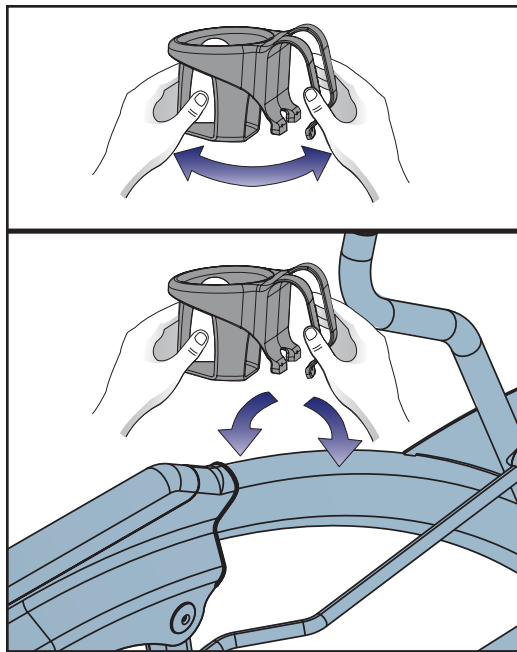

Figure 12
- A. Hold the water bottle holder (#3) with two hands and gently pull outward and continue to pull (hold open) during step 10B. See Figure 12.
- B. Place the water bottle holder (#3) over the frame with the larger side outside of the frame as shown in Figure 12.